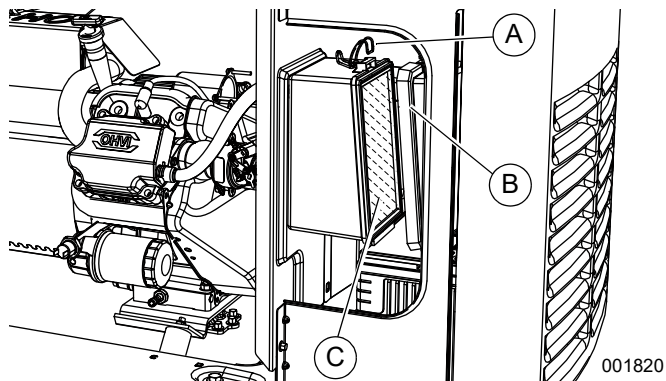
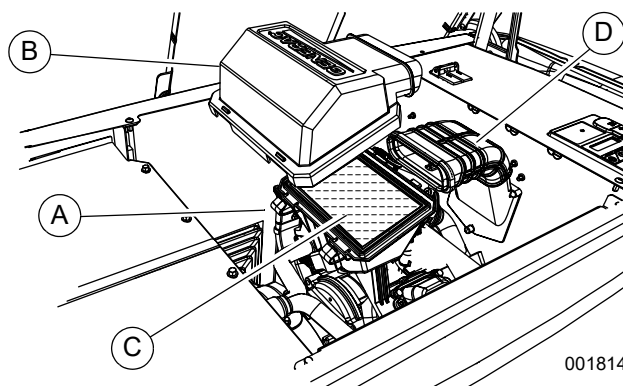

Figure 4-4. Servicing Air Cleaner (10 kW)
Figure 4-5. Servicing Air Cleaner (13–22 kW)
2. See Figure 4-4 or Figure 4-5. Remove cover clips (A) and air cleaner cover (B).